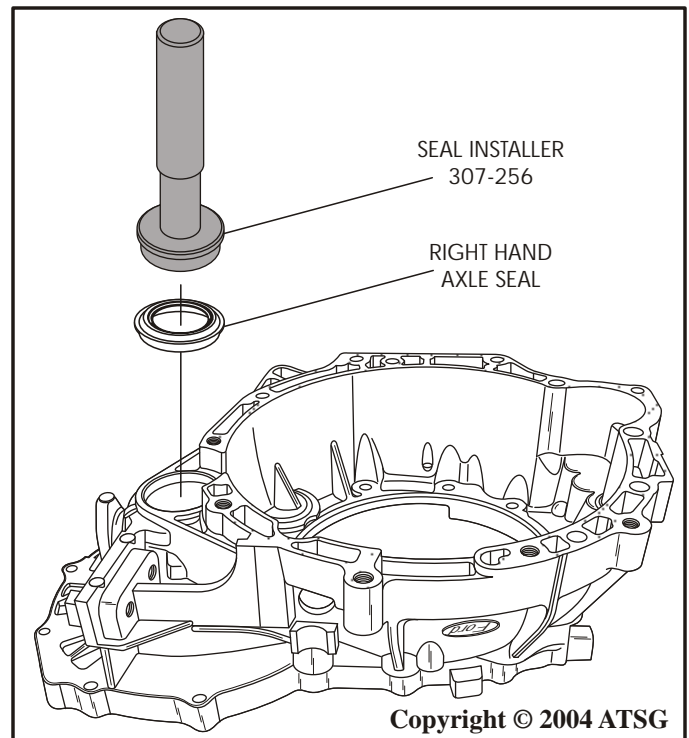

Figure 129
42. Turn the empty bell housing over and install a new right hand axle seal using the proper seal installer, as shown in Figure 129.